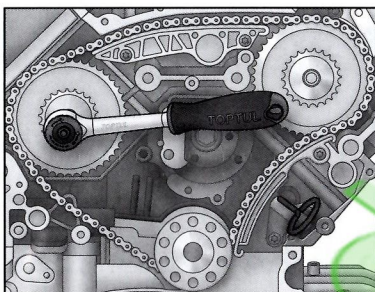

Fig.52
- (1) Install the timing chain and the idler pulleys using new bolts. Install the guide rail using new guide rail bolts. (Fig.52)